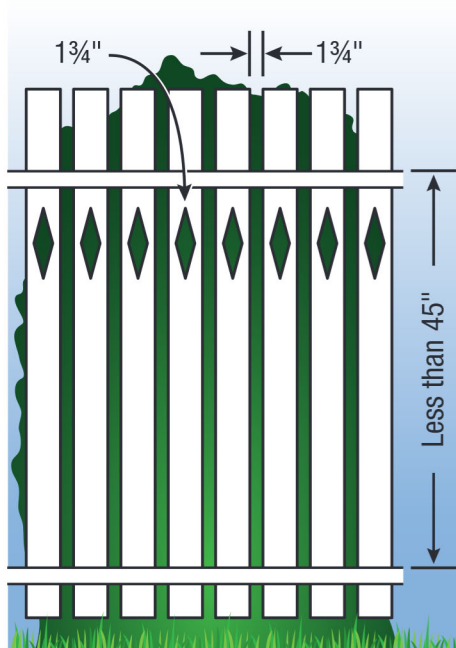

Figure 3
6. Where the barrier is composed of **horizontal and vertical members**, and the distance between the bottom and top horizontal members is less than 45 inches, the horizontal members should be located on the interior side of the fence (figure 3).